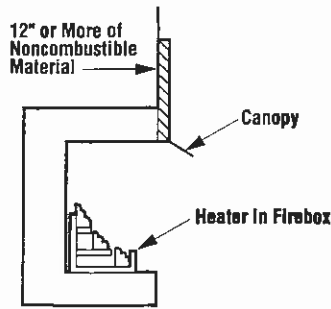

Figure 3
Step 3. Noncombustible material (minimum requirements) without wood mantel or other combustible projections: To install the firebox without wood mantel, shelf or other combustible projection above firebox opening, at least 12" of noncombustible material must be installed above the fireboxes described in this manual (*Figure 3*).